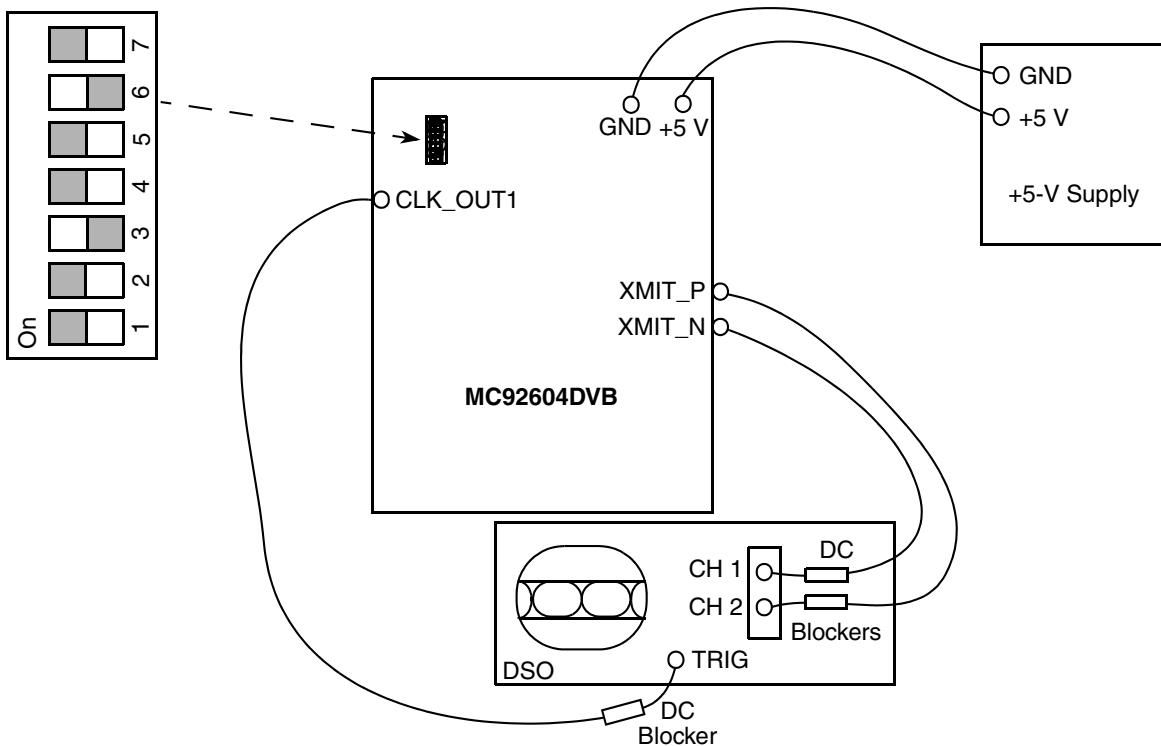

Figure 3-1. Data-Eye Observation Setup
The MC92604DVB and test equipment should be connected as depicted in Figure 3-1. Configure clock circuits with SW1, as shown in Figure 2-3.
1. Connect the MC92604DVB and test equipment as described in Figure 3-1 and Table 3-4. This will place the MC92604 in PN generation mode with the MC92604 in reset.